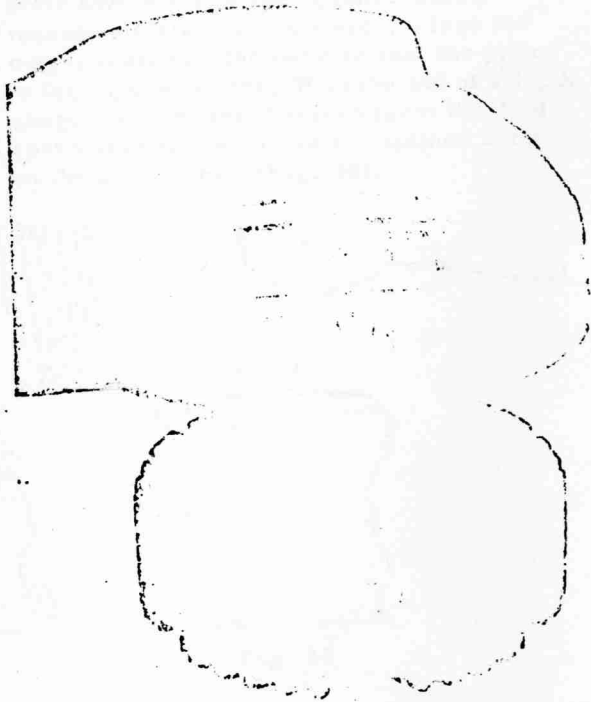
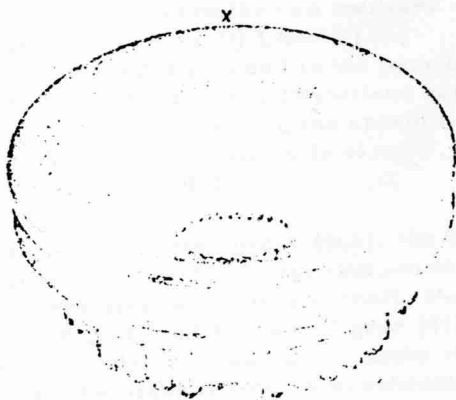

Fig. 27
Fig. 28
e) Push the sliding sleeve (213, 225) over the pre-assembled synchronizer so that the balls (210) engage with the teeth, which in Fig. 27 are marked with a cross (slightly cut back) and the drivers of the synchronizer rings fit into the tooth gaps of the sliding sleeve (Fig. 28).